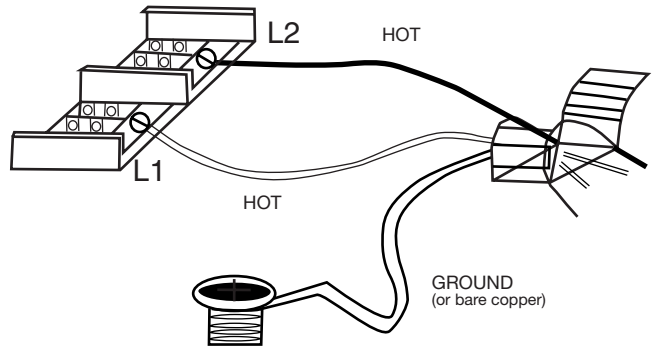

Figure 7
3. Pull enough wire into the heater and connect the wire to the Power Block located in the electrical area of the heater, See **Figure 7**.